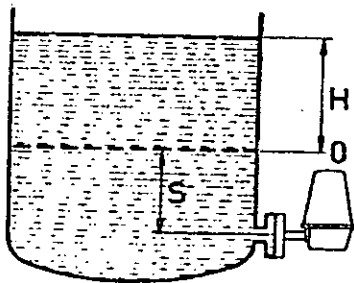

Figure 4 - H = Span
If the zero level in the vessel differs from the level of the measuring diaphragm (fig. 4), the hydrostatic pressure between the two levels must be overcome by means of a range elevation device.
2. Adjust the diaphragm pressure to value S (fig. 4) corresponding to the zero point of the range. Adjust screw 22 in the elevation device for 0.2 bar or 3 psi output pressure.
3. Increase the diaphragm pressure by the amount of pressure H (fig. 4) corresponding to range span. Total pressure is thus $S + H$. Move adjustment bearing 5 until the output pressure is 1.0 bar or 15 psi.